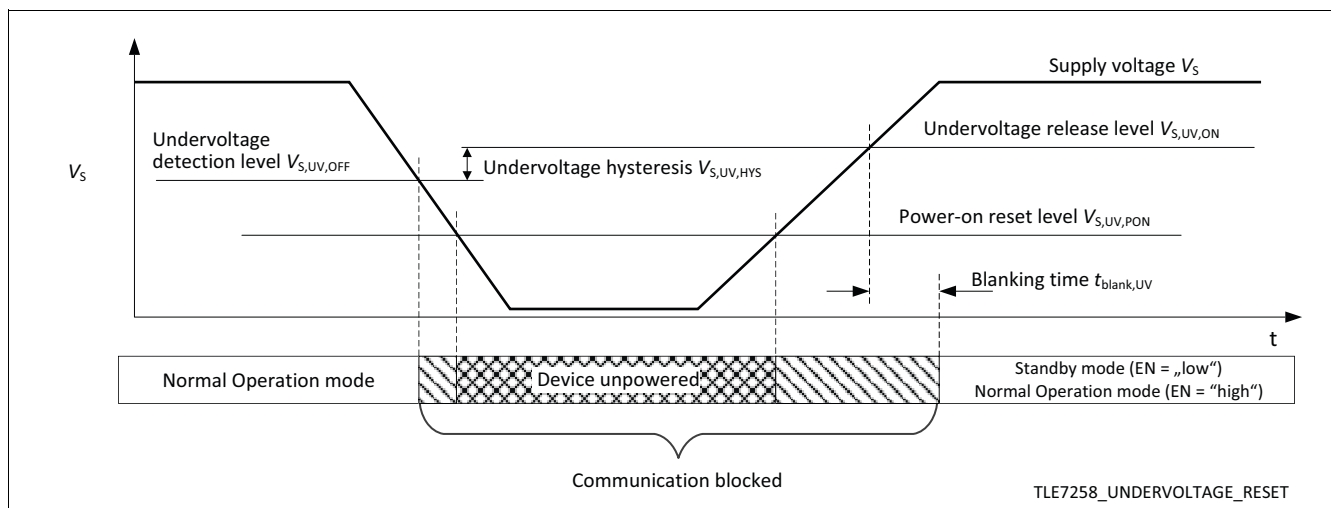

Figure 12 Undervoltage detection and power-on reset
- In case the power supply V_S drops down below the power-on reset level $V_{S,UV,PON}$ the TLE7258 not only blocks the communication between the LIN bus and the microcontroller, it also changes the operation mode to standby mode after V_S supply recovery. In standby mode the TLE7258 indicates a power-up event on the RxD output. The power-on reset level is active in all operation modes. See Figure 12.